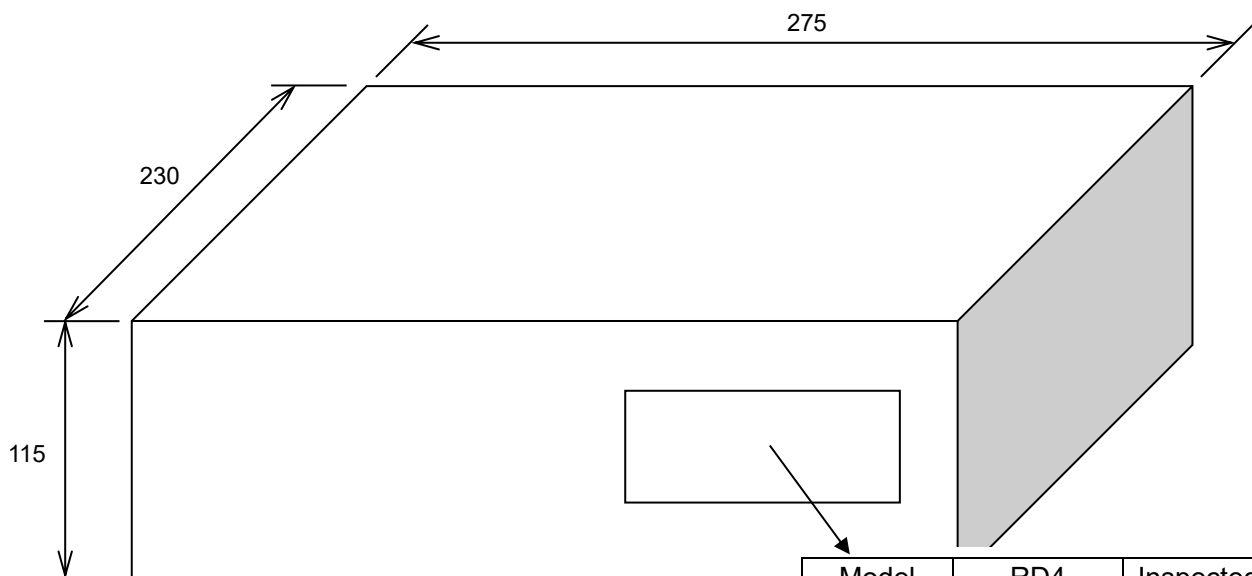

Fig.3
- (3) Encase in a cardboard box and indicate model name and quantity. (Refer to Fig.3)